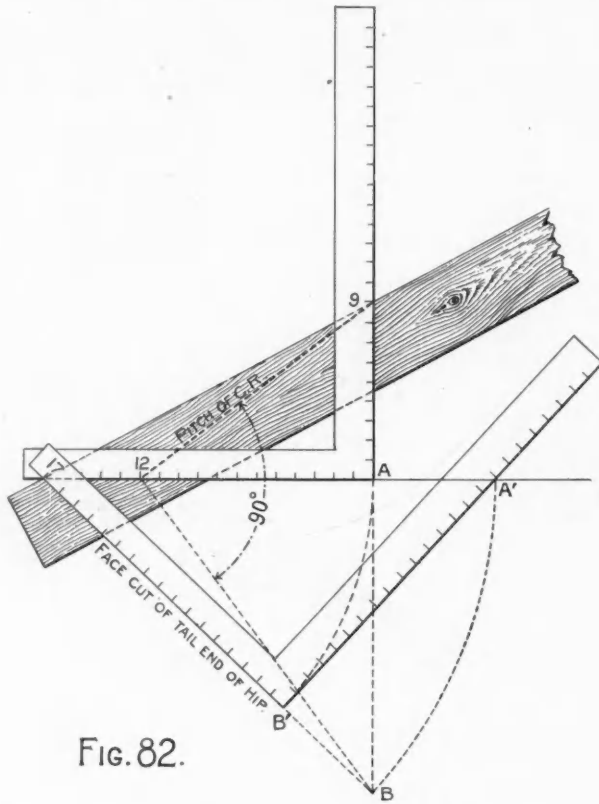

Fig. 82.
There is no general rules so far as we have been able to find whereby this cut can be had direct from the edge of the rafter, as in other cuts, but it may be had by taking the run (17) on the tongue and the co-rise on the blade and applying this to a line parallel with the seat cut and the tongue will give the desired cut as shown in Fig. 82.